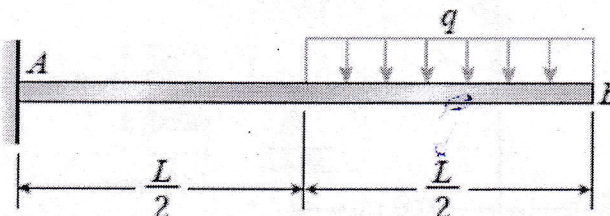

fig.2
- b) Draw the shear force and bending moment diagrams for a cantilever beam AB shown in fig.2, carrying udl of intensity  $q$  over one-half of its length. [6]